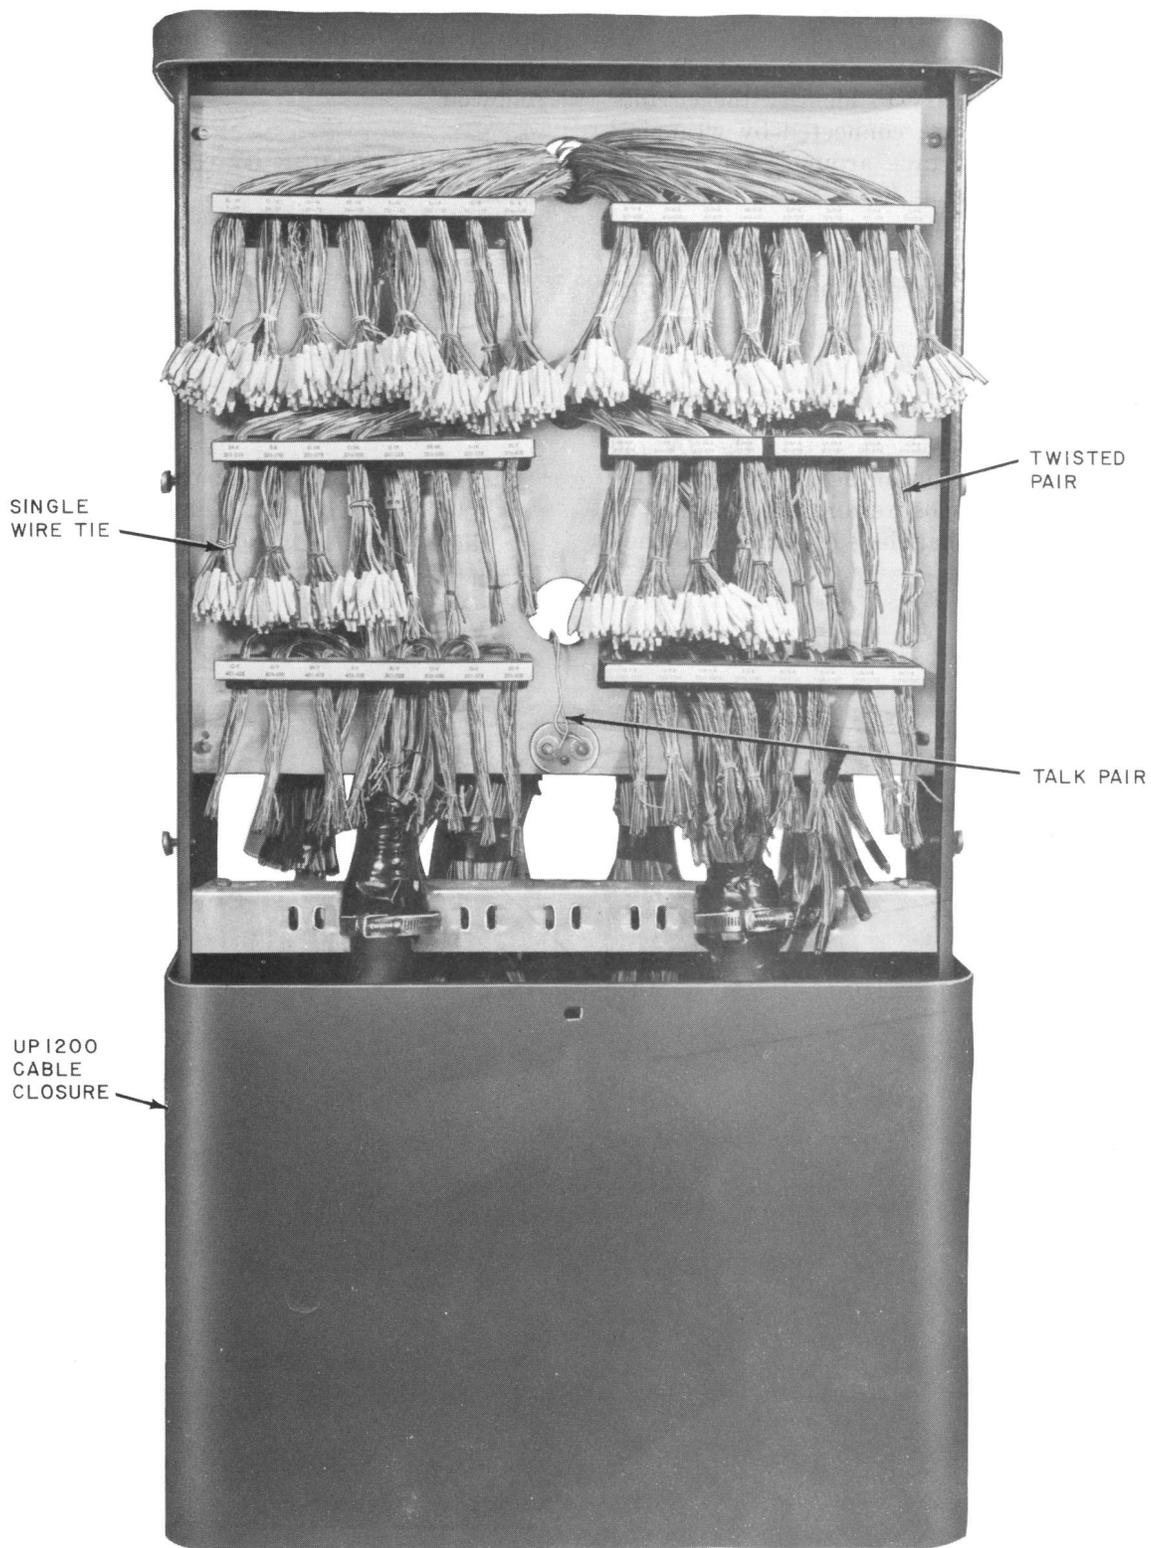

Fig. 7—N Backboard
6), and the N Backboard (Fig. 7), used in conjunction with the G, H, and UP-1200 Cable Closures, respectively, are used for access points in buried plant. Section 631-600-221 describes the L and M Backboards used in G and H Closures. Section 631-600-225 describes the M and N Backboards used in the UP-1200 Closure. Wiring arrangements for the B and C Backboards used in conjunction with the 38-Y-B and 38-Y-C Cable Closures are identical to the wiring arrangements for the L and M Backboards.◆